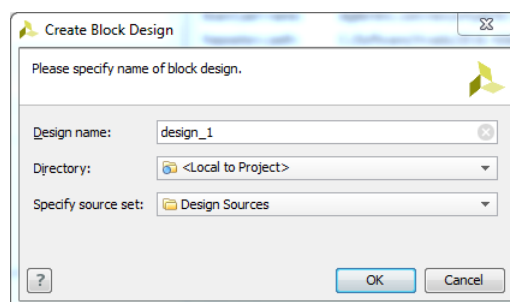

Figure 5: Name Block Design
1. From the **Flow Navigator** window (usually leftmost in Vivado), under **IP Integrator** item, select **Create Block Design**. The Create Block Design dialog box opens, as in Figure 5.
4. Click **OK** in the Create Block Design dialog box, shown in Figure 5.